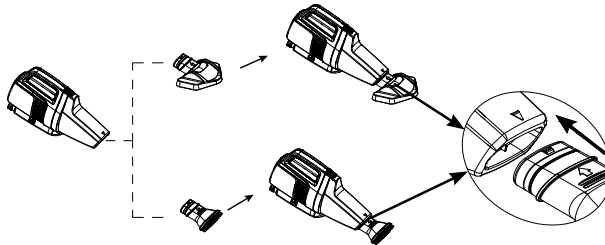

Fig 4
3. Attach the desired cleaning head accessory to the vacuum body cover. See fig 4.